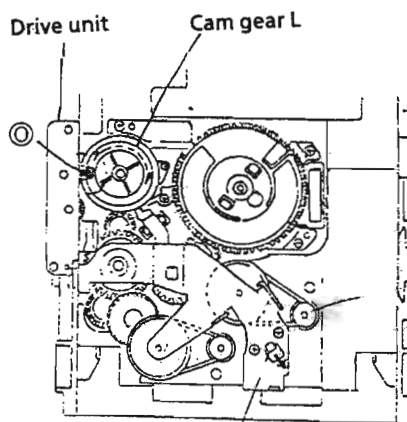

Fig. 2-15
2. Rotate the Cam gear L so that the drive unit's pawl (C) is positioned as shown in Fig. 2-15.